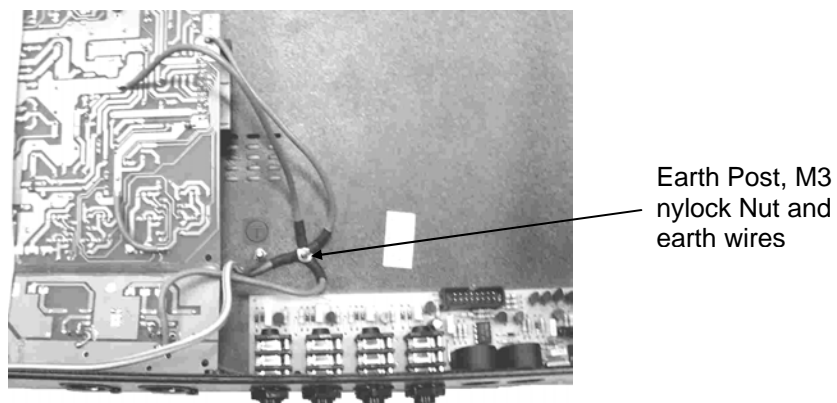

fig.2
- 4) Remove the M3 nylock nut and earth wires (see fig.2)